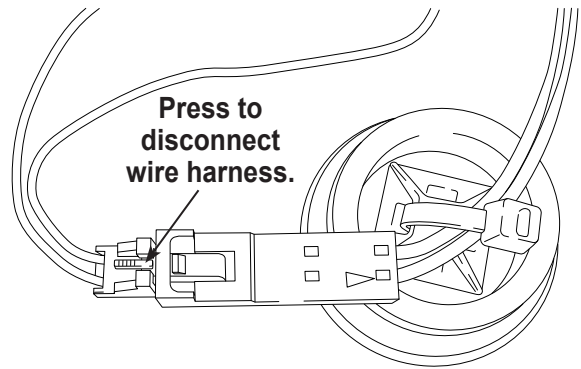

Figure 23
6. Disconnect the wire harness at the connector by pressing on the center tab. Pull the connectors apart. See Figure 23.